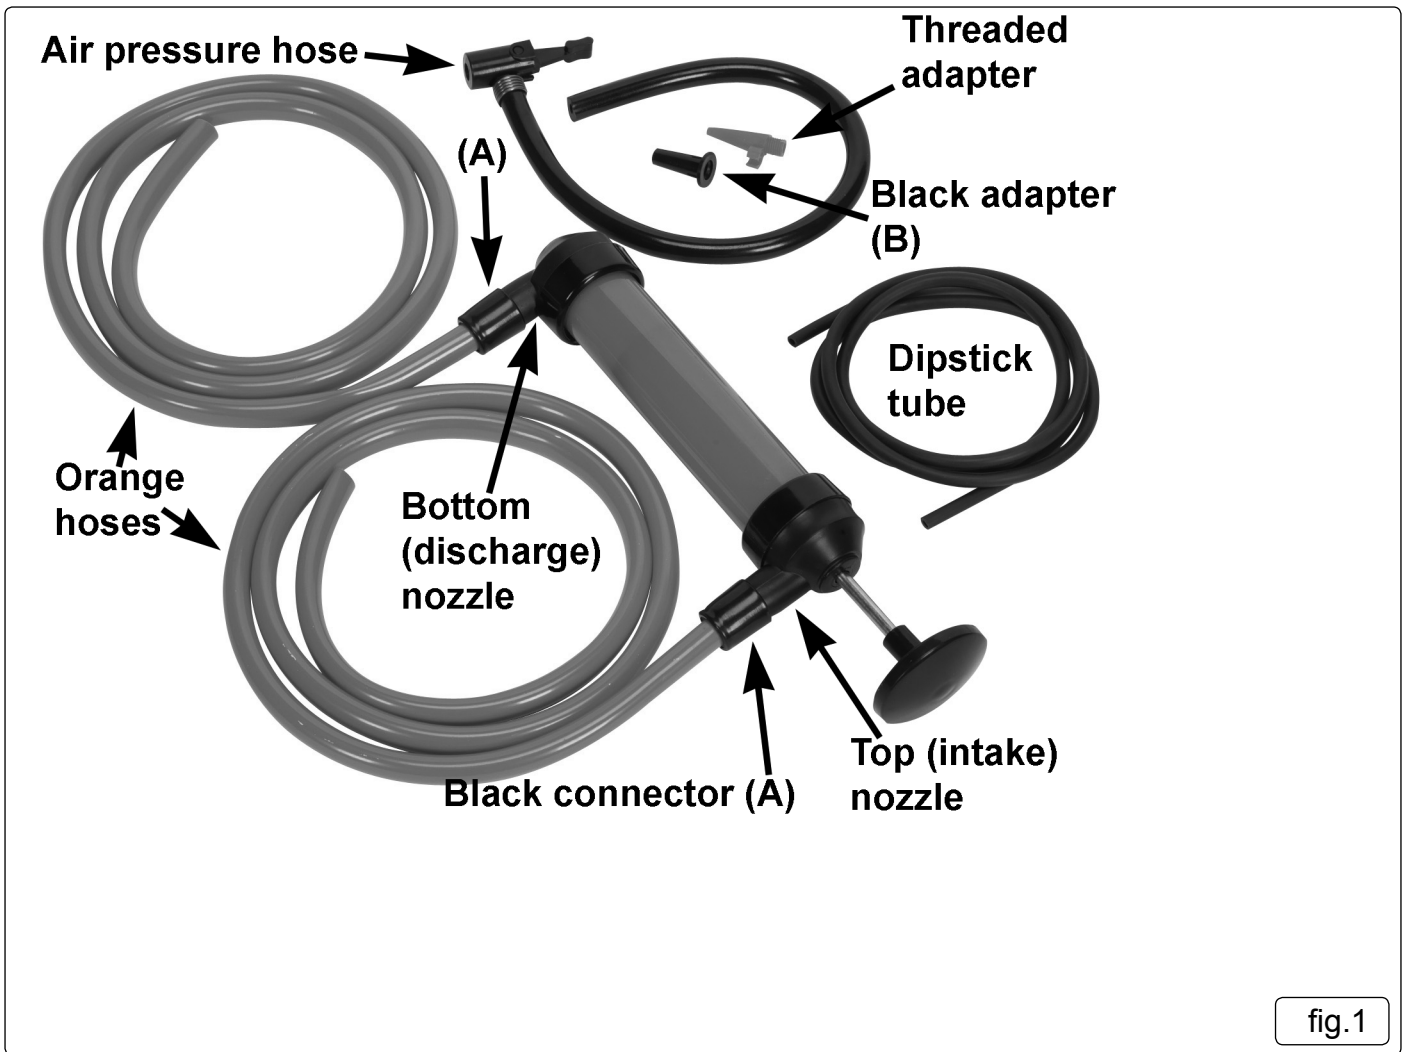

fig.1
- 4.1.1. Insert one end of each of the two orange, hoses into the black connectors (A), fig.1.